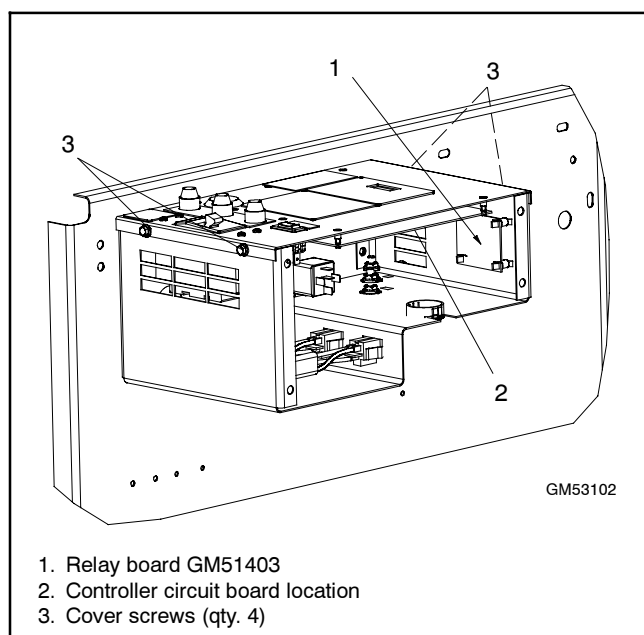

Figure 4-9 Relay Board Location
The generator set may be equipped with an optional relay board, which contains the K1 common fault relay and K4 auxiliary run relay. See Figure 4-9 for the relay board location inside the controller junction box.
1. Access the controller junction box to locate the relay board. See Figure 4-9.